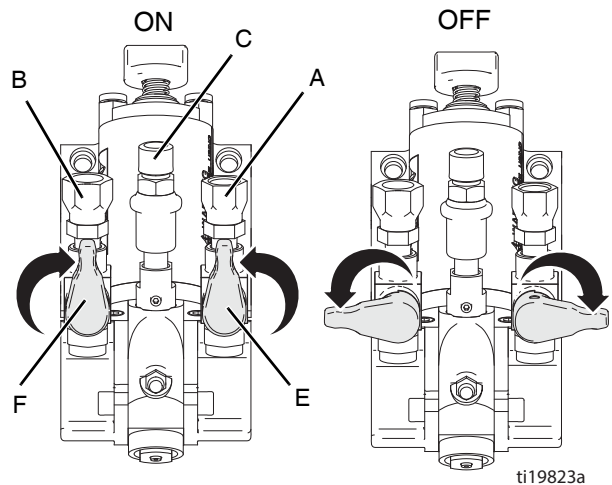

FIG. 3 Material Valves
2. Close both material valves (E, F) by turning to the off position. See FIG. 3.